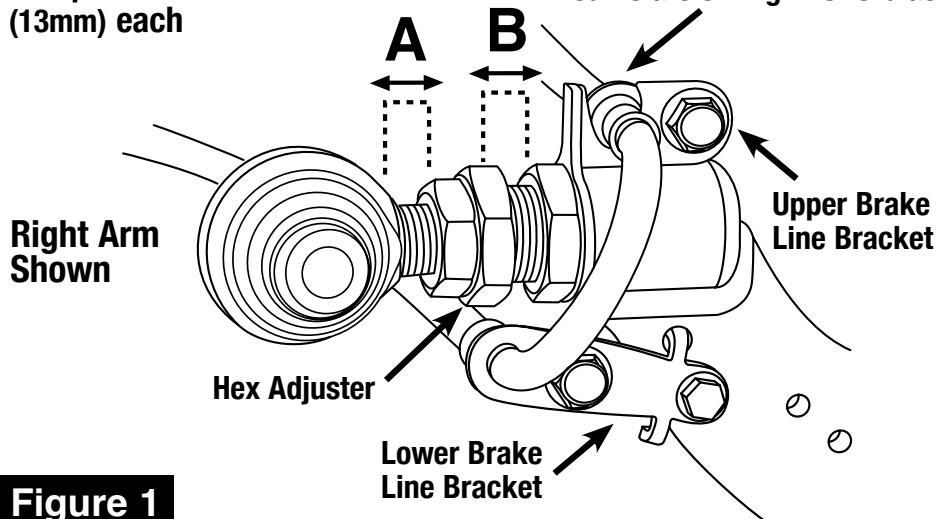

Figure 1
5. Install supplied lower brake line bracket onto SPC control arm using supplied M6 bolt, see **Figure 1**. Lower bracket should be on forward-facing side of arm.
6. Adjust SPC arm to be approximately same length as OE arm. Fully thread each jam nut so it is closest to bushing. Ensure equal threads are visible on either side of adjusting hex, see **Figure 1**.
CAUTION: Maximum length of arm is reached when thread on either side of large hex is 1/2" (13mm), see **Figure 1**. DO NOT lengthen arm beyond this point. Exceeding range of adjustment on arm may cause it to fail and void warranty.
10. Mount OE brake line to upper and lower SPC brackets using OE bolts and supplied nuts. Verify crimped portion of OE mounts are sitting in SPC brackets, see **Figure 1**.